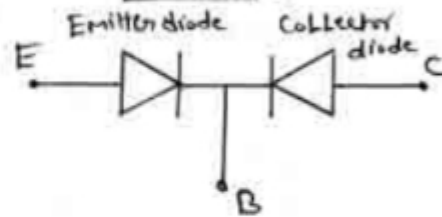

Fig 6: Diode equivalent circuit of PNP transistor
- Transistor can be considered as connection of two back-to-back diodes (fig 3) & (fig 6)